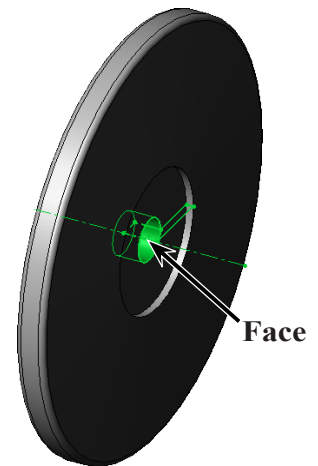

Fig. 16
click **OK** , **Fig. 16**.
Step 1. Click the **inside cylindrical face of axle hole** to select it, **Fig. 16**.